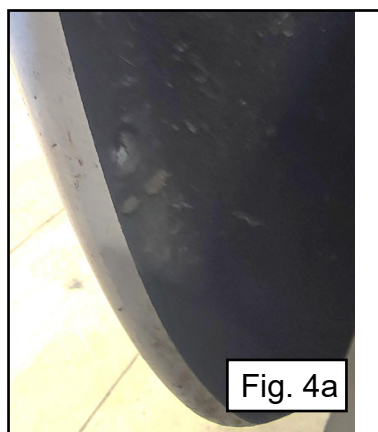
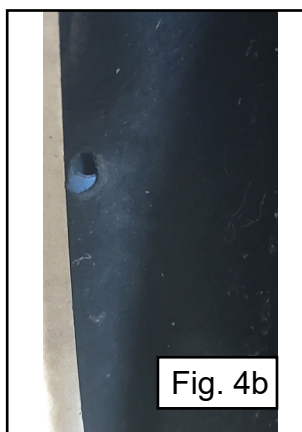

Fig. 4a
Fig. 4b
Begin with a removal of the rear wheel liner clips (4) (Fig. 4a, Fig 4b).